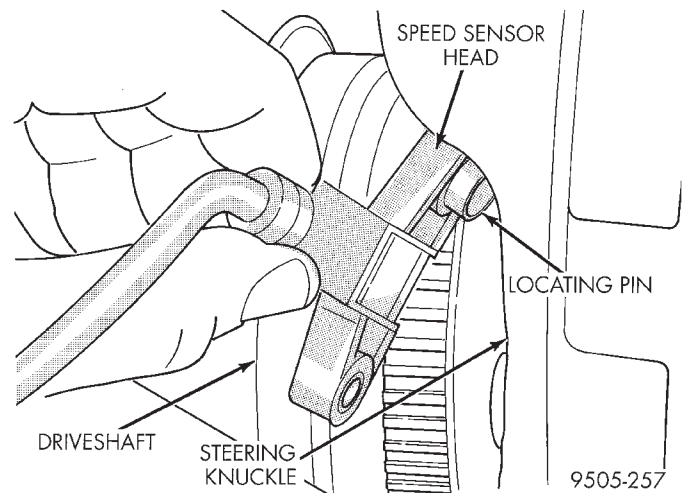

Fig. 44 Installing Speed Sensor Head In Steering Knuckle
- (4) Install speed sensor head on steering knuckle (Fig. 44). When installing speed sensor head on steering knuckle, apply a small amount of grease on speed sensor locating pin (Fig. 44). Use Mopar, Multi-Purpose Grease or an equivalent on speed sensor head locating pin. Install the speed sensor head attaching screw and tighten to a torque of 6 N·m (55 in. lbs.).